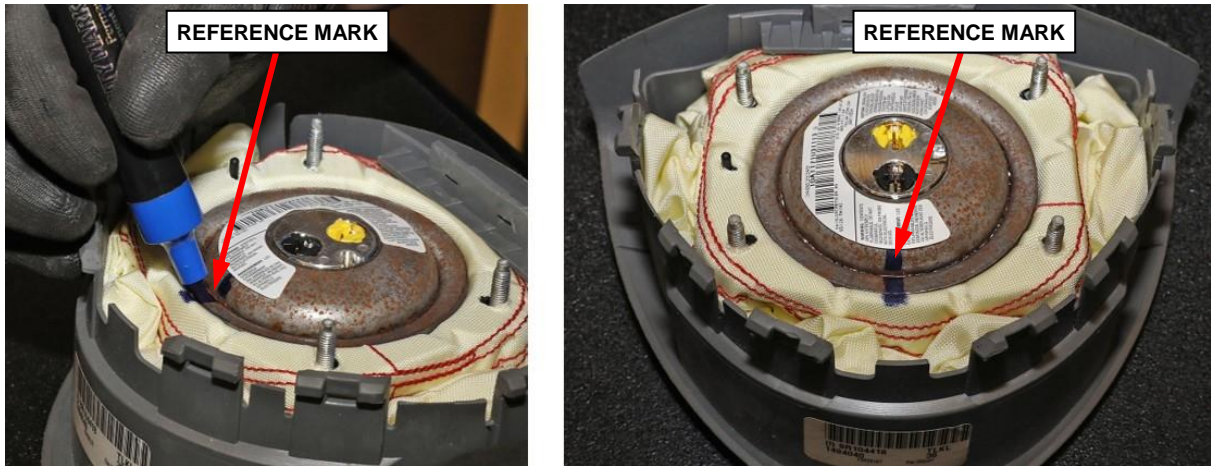

Figure 12 – Mark Inflator Orientation
- 7. Mark the inflator orientation to the air bag cushion in case it becomes separated from the air bag cushion (Figure 12).